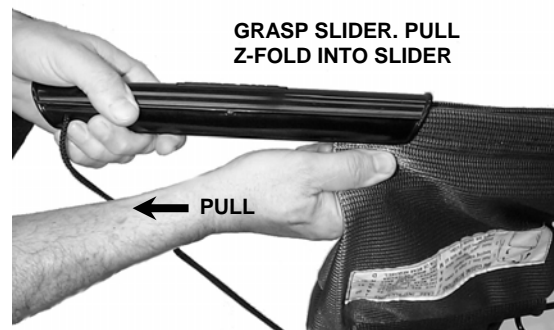

FIGURE 2.17
5. Grasp the edge of the Z-fold, and while holding the slider, pull the Z-fold fully into the slider. See Figure 2.17.